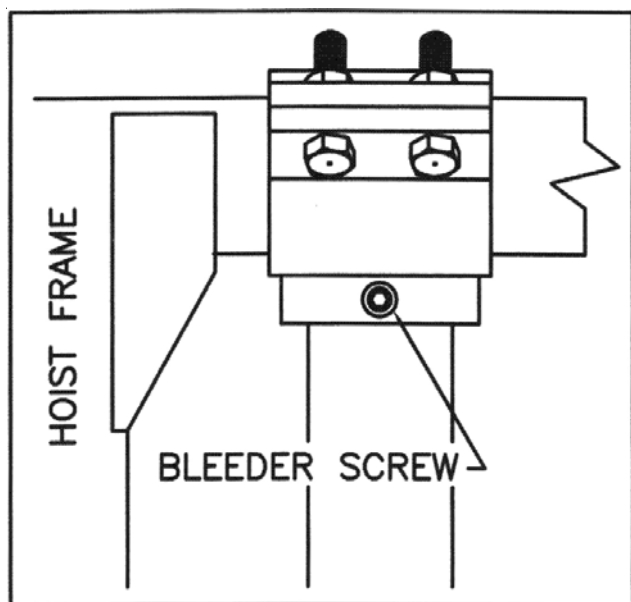

Figure 15: Bleeder Screw Location
**14. Single Acting Cylinders:** For single acting (power up only) cylinder hoists, complete the steps in this section. If the hoist is operated with no clearance problems then raise the hoist until fully extended. **Support the bed with a suit-able overhead hoist to prevent lower-ing of the truck bed.** With the pump running, and the control knob in the raise position, loosen the bleeder screw (at the top of the cylinder) **one half turn** to allow the air to escape (see Figure 15).